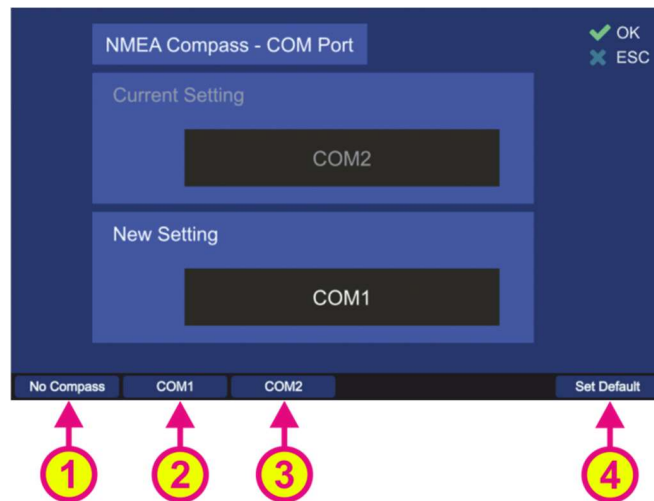

Figure 156. Compass connector setting
- Pressing the hotkey “Edit Value” the following sub-dialog will be opened (s. Figure 156).
- Choose the new setting using one of the hotkeys (s. Figure 156), which will then appear in the “New Setting” field.
Selecting “COM1” or “COM2” (s. Figure 156, positions 2 and 3) configures the corresponding communication port as the input port for the external compass data. By choosing “No compass” setting (s. Figure 156, position 1), the external compass data will be ignored. “No compass” has to be selected, if no external compass is connected, in order to avoid displaying the corresponding warning on the “Bearing” page (“No Compass” warning).